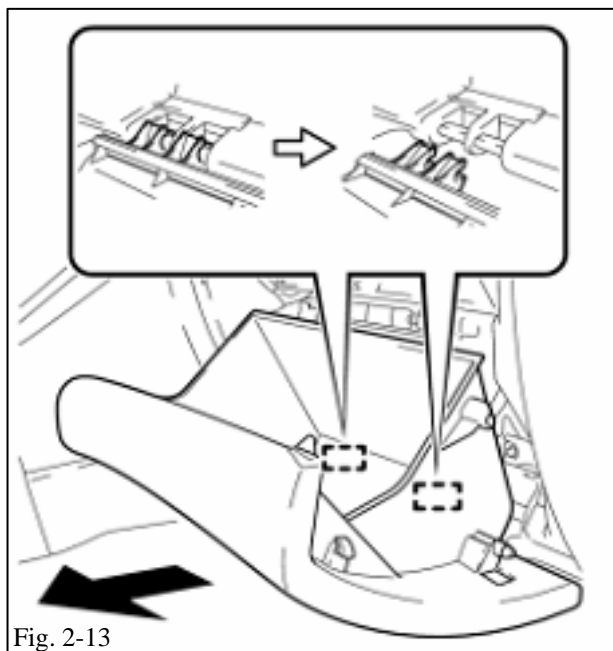

Fig. 2-13
- (k) Pull the glove box door assembly horizontally toward the rear of the vehicle to release the two (2) hinges, and remove the glove box door assembly. (Fig. 2-13)